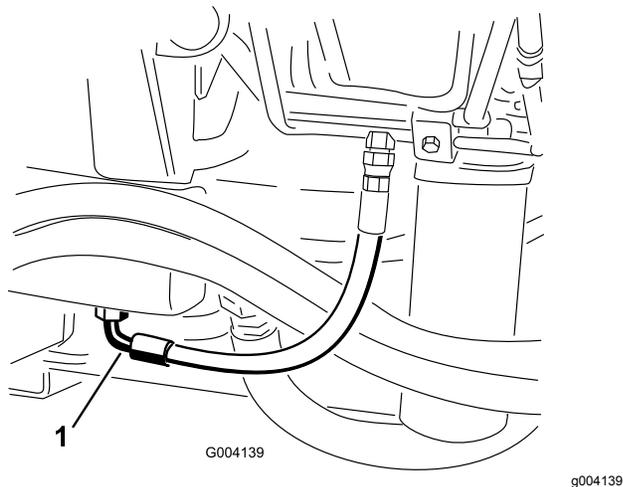

Figure 68
3. Place a large drain pan under the fitting secured to the bottom of the hydraulic-fluid reservoir (Figure 68).